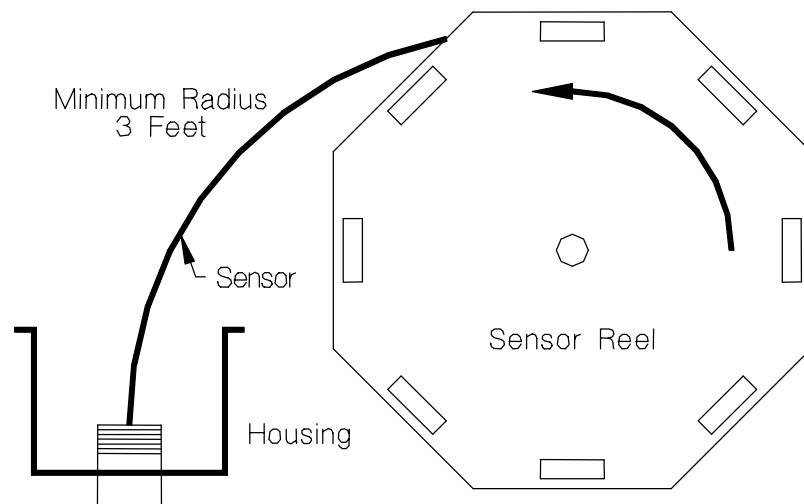

Figure 3.2 Removing the sensor from the reel
- b. While carefully removing the sensor clear-plastic packing sleeve (once started, it will tear easily from the sensor), curve the sensor gently and dispense it from the reel into the still-pipe. Refer to Figure 3.2.